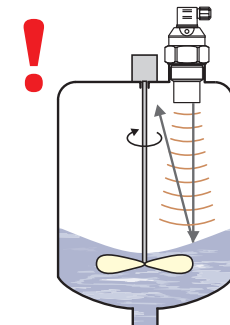

Fig. 12: Intensely stirred surface
- q) False surface reflections of the ultrasonic signal might result as a consequence of **rotating mixer's blades** that ripple the surface level and thus cause unreliable level meter's functioning (Fig. 12).